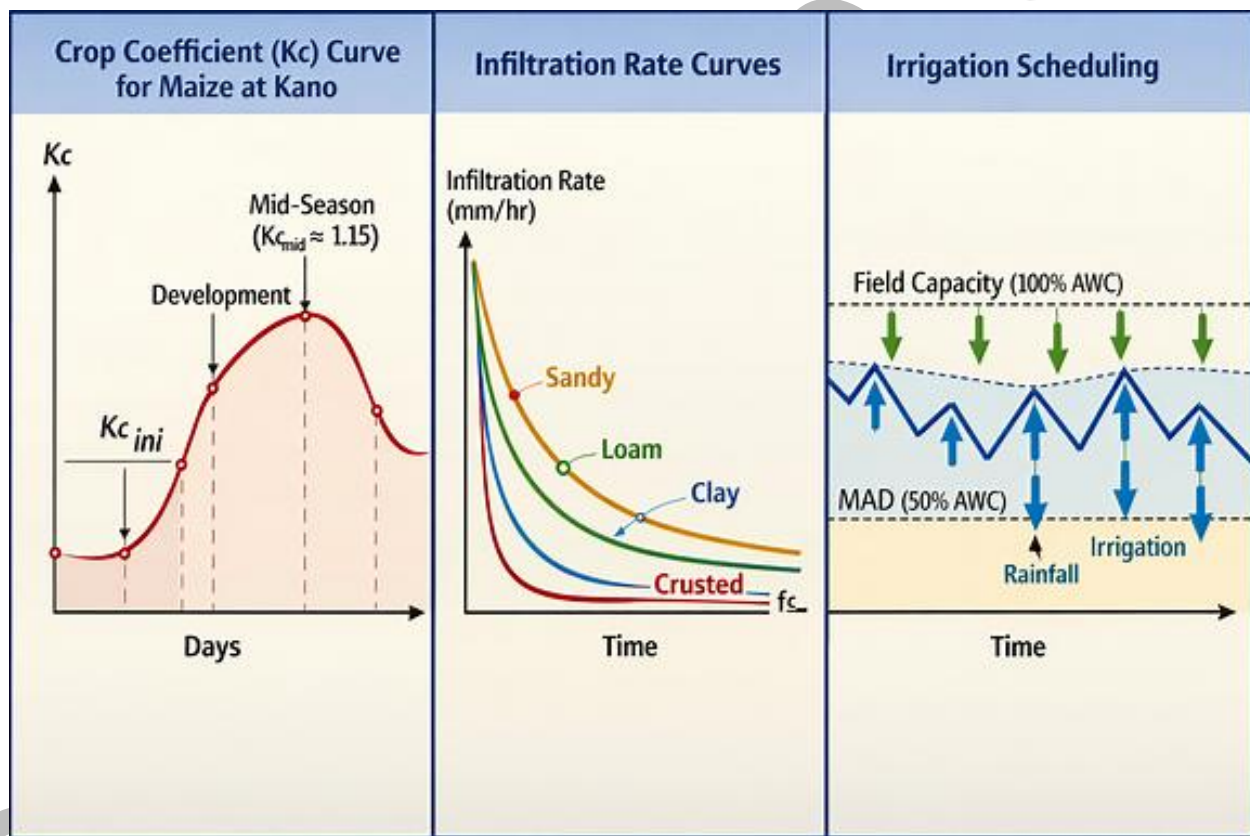

Figure 3.1: Crop coefficient curve (left), infiltration rate curves for different soils (centre), and irrigation scheduling graph (right)
- Figure 3.1: Crop coefficient curve, infiltration rate curves, and irrigation scheduling graph. Attribution: AI generated. Suggested OER search string: “crop coefficient Kc infiltration rate irrigation scheduling soil moisture Nigeria OER↓.